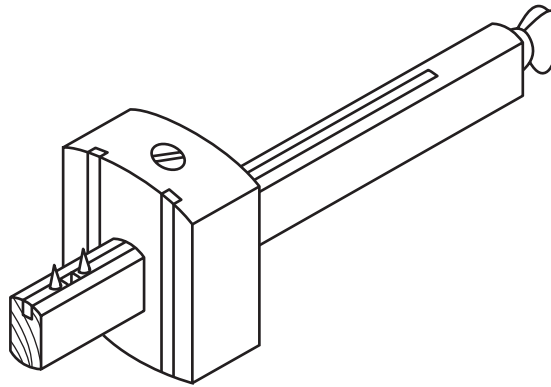

Fig. 4
- (f) Fig. 4 shows a woodworking tool used for marking out.
- (i) Name the tool shown in Fig. 4